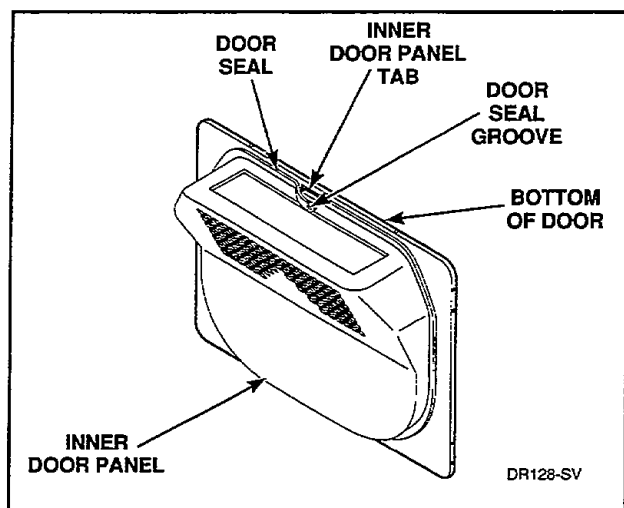

Figure 17
- Grasp either end of door seal at bottom of door and remove seal from tabs on inner door panel, *Figure 17*.
NOTE: When replacing seal, be sure seal is not stretched or distorted and the groove in the seal is installed on each tab on inner door panel, *Figure 17*, and the split in the seal is at the bottom of the door.